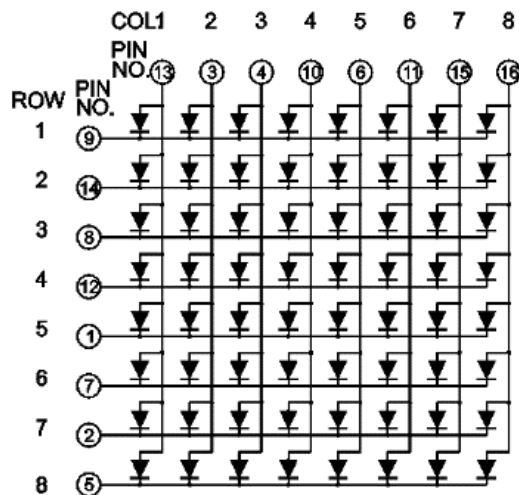

Figure 1. 8x8 LED Matrix schematic
As shown, each column is connected to the rows with LEDs. The columns must be connected to Power and the rows must be connected to Ground to illuminate the LEDs. When the circuit is completed, current flowing through the LEDs allows the LEDs to light up. As shown in Figure 1, the LED matrix to which cathodes are connected commonly is called LED matrix with common cathodes. Positive voltage (HIGH) is applied to the selected column, while the LOW level is applied to the selected row to light up a specific LEDs in this matrix. Let's take a look at how we can obtain the letters on the 8x8 LED matrix before we pass it to the Arduino program.
*Warning: Pay attention to the order of the columns in Figure 2, because it was made according to the diagram shown in Figure 1. However, in Figure 3, the order of bits is opposite to the order that is shown in Figure 2. This is because C8 has been taken as MSB and rClock as LSB.*